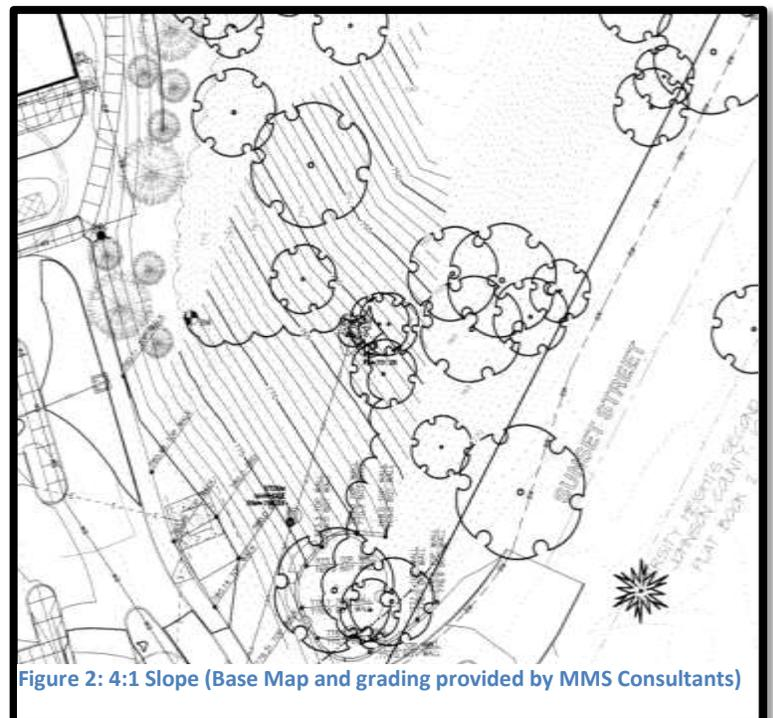

Figure 2: 4:1 Slope (Base Map and grading provided by MMS Consultants)
This would be the most stable of the three options. The slope could be mowed to control weeds to help with the establishment of new trees and shrubs. However, as you can see in Figure 2, a 4:1 slope will require at least six (6) medium to large trees to be removed including a large Catalpa tree with a significant canopy (Photo 4). The roots of other trees may be impacted if grading occurs within the drip line of the trees. This meets the goal of having a stable slope but does not meet the second goal of protecting trees because it removes a large tree with a large canopy.